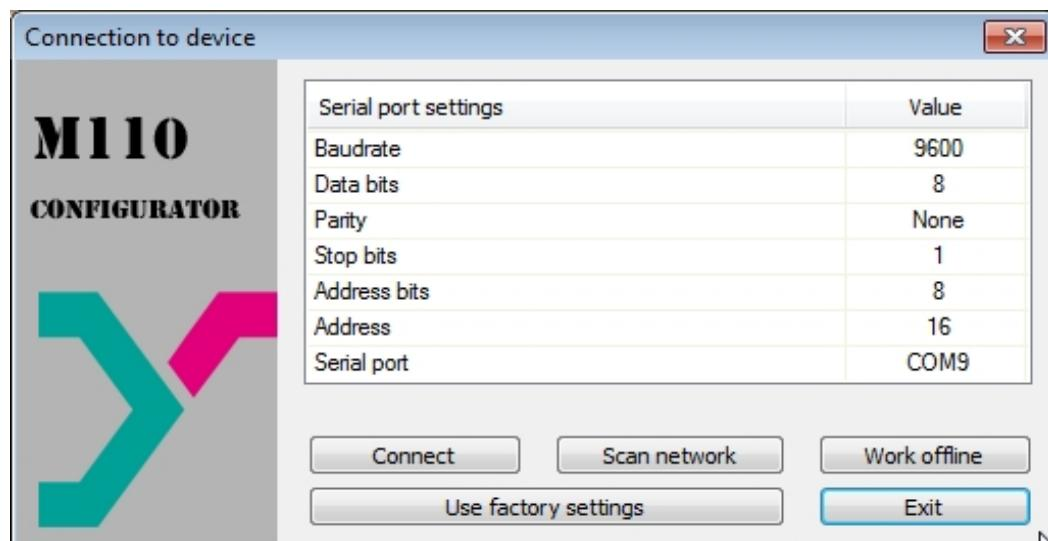

Fig. 7.1 Start window of configuration software
- in the ‘Connection to device’ window set the parameters to default (see Table 7.1) or click the ‘Use factory settings’ button (see Fig. 7.1)